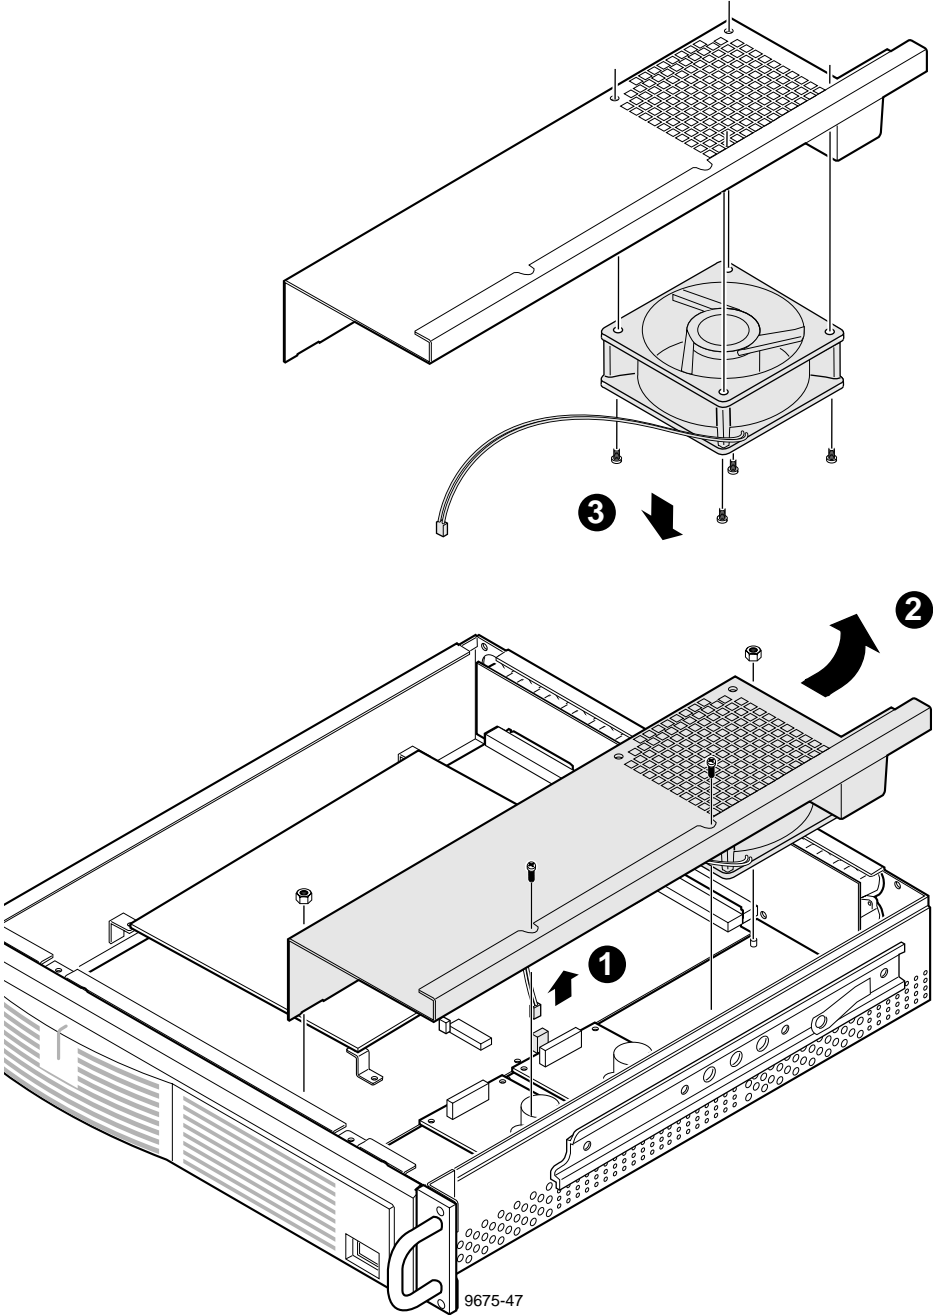

Figure 6-32. PAC208/216 Power Supply Shield and Fan Removal
2. Disconnect the fan cable from the Main Board (Figure 6-32).
3. Use the Torx tool with the T15 tip to remove the screws and the 11/32-inch nutdriver to remove the nuts which secure the power supply shield to the chassis (1 in Figure 6-32).
4. Lift the shield carefully up and out of the chassis and place upside down on a flat level surface (2 in Figure 6-32).
5. Use the Torx tool with the T15 tip to remove the screws which secure the fan to the shield (3 in Figure 6-32).
1. Thread the fan mounting screws through the fan holes at each corner and, with the Torx tool with the T15 tip attach the fan to the power supply shield (Figure 6-32).